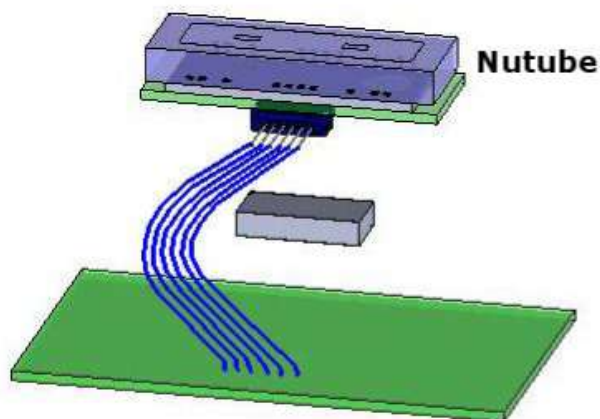

Fig.1
1.To prevent any vibration from the circuit board (Fig.1)